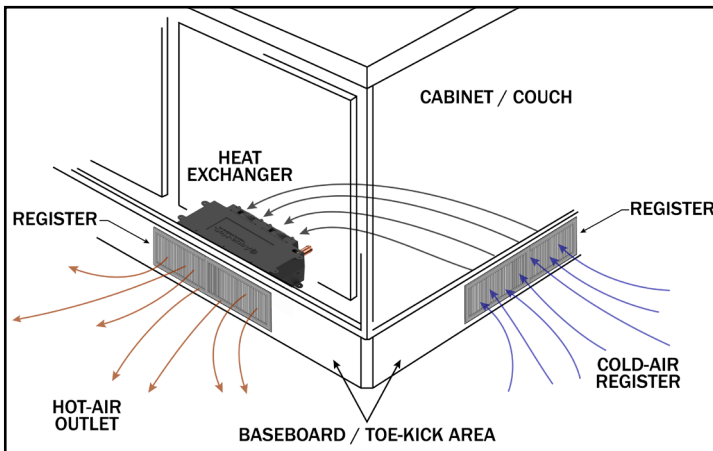

Figure 21
1. Cut out a 2.5" x 10" opening for each heat exchanger outlet and cold-air return grate as shown in Figure 21.